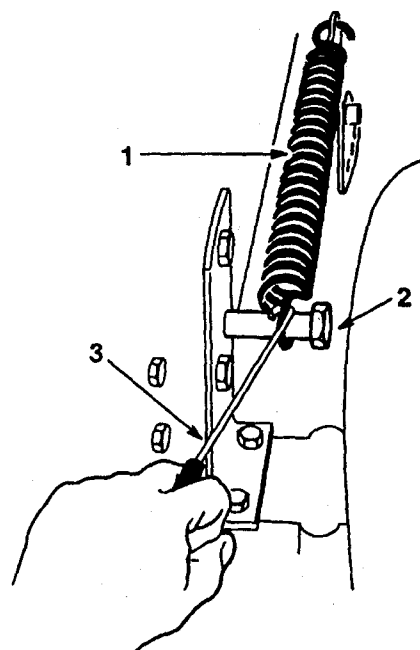

Figure 46
11. Hook the height-of-cut lift assist spring onto the retaining bolt (Fig. 46), using the spring tool provided with the machine.